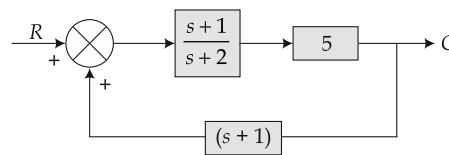

Fig. 2.61
2. A system is given by the block diagram shown in Fig. 2.61.